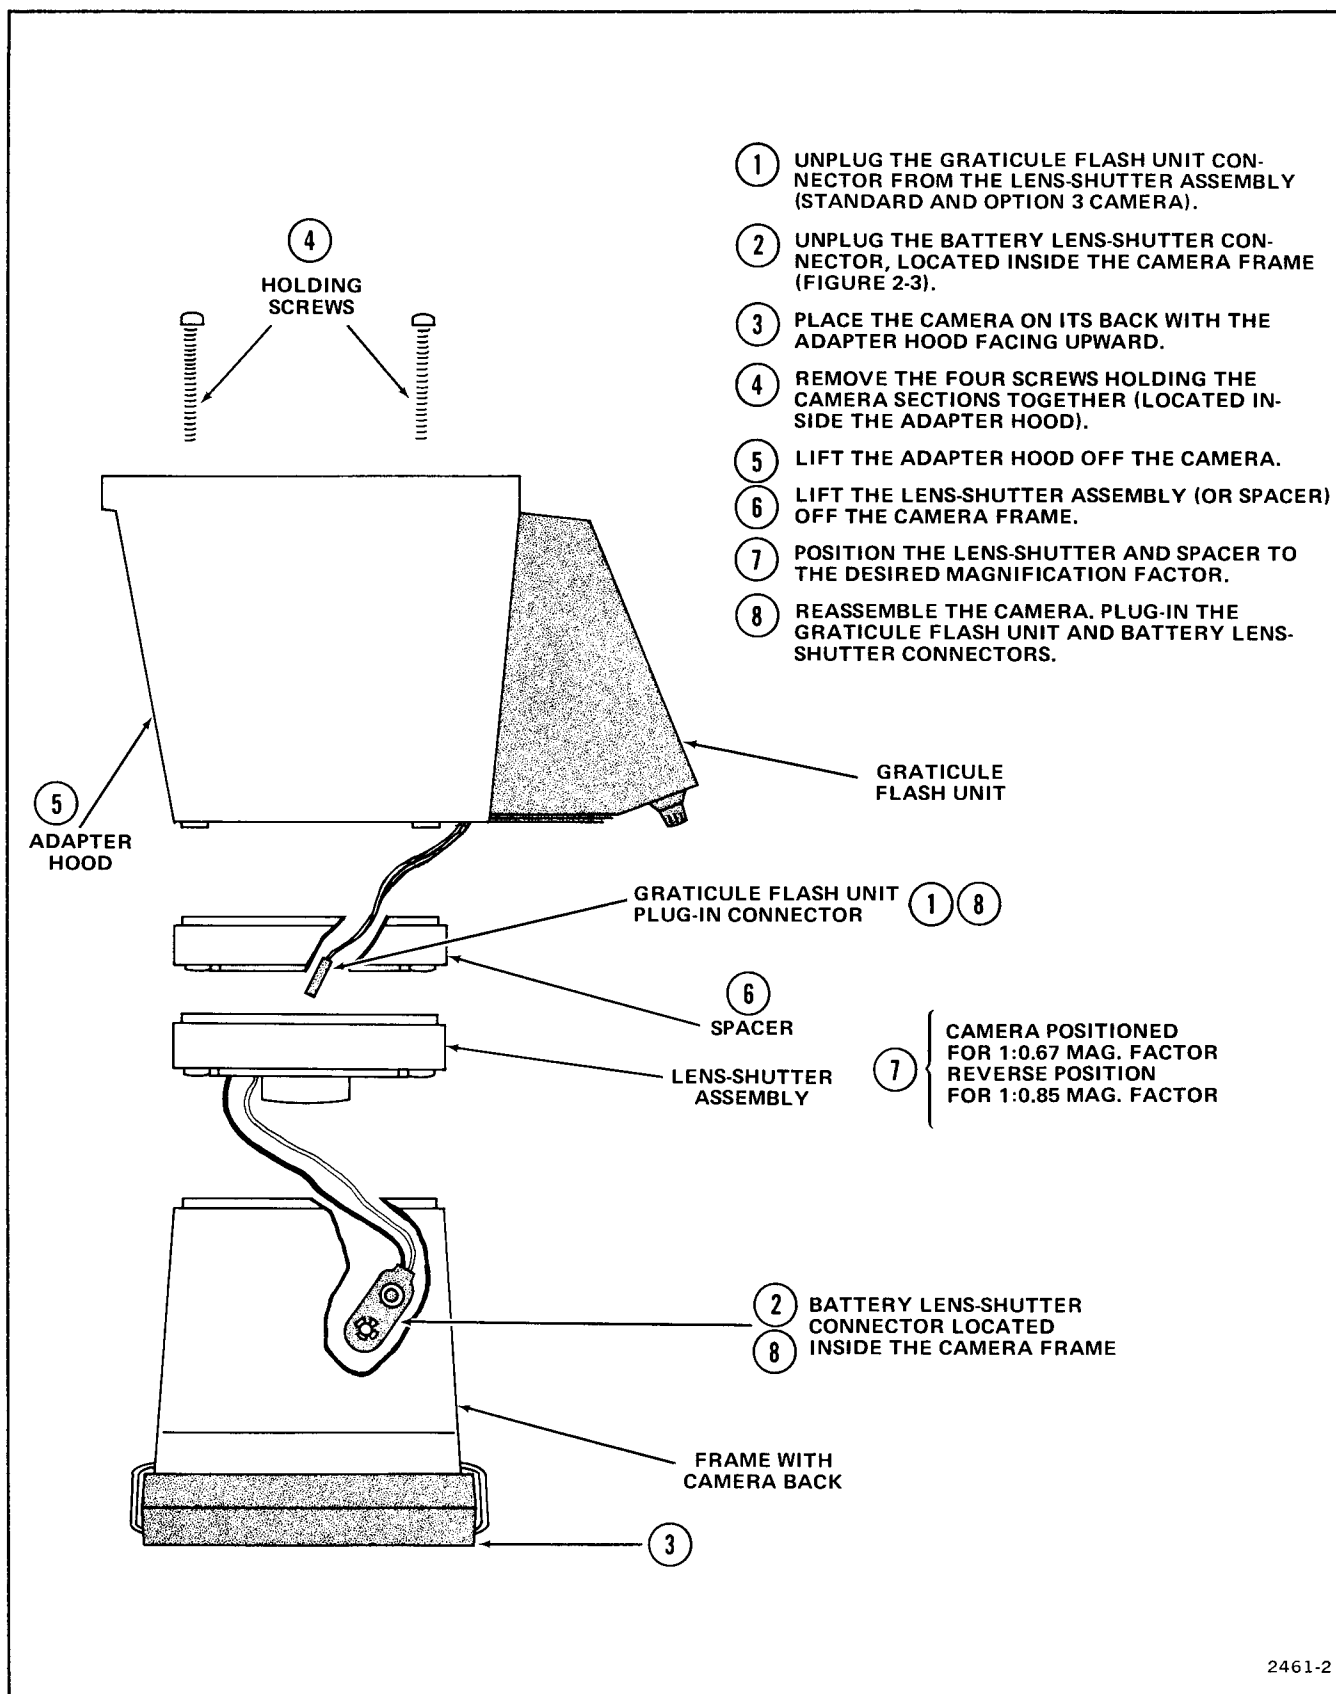

Figure 2-6. Changing the magnification factor.
The magnification factor is determined by the position of a movable spacer in relation to the lens-shutter assembly. When the spacer is between the camera back and lens-shutter assembly, the magnification factor is 1:0.85. When the spacer is positioned in front of the lens-shutter assembly, the magnification factor is 1:0.67. Figure 2-6 describes procedures for changing the magnification factor.
1. Confirm camera object-to-image ratio (magnification factor) for the instrument being photographed (Table 1-2). Figure 2-6 identifies procedures for changing the magnification factor.